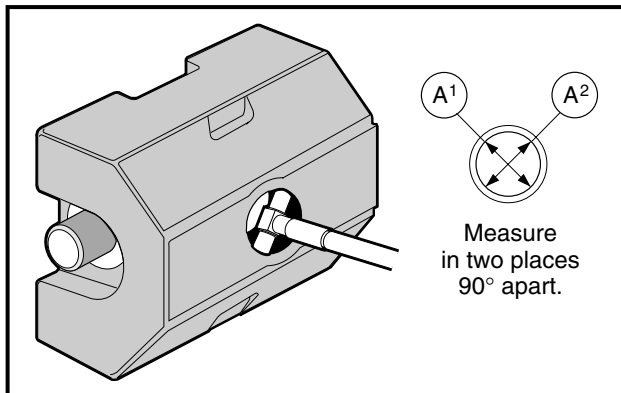

Figure 2-76 Measure I.D. of Counterbalance Weight Bore
2. Use a telescoping gauge and micrometer to measure the inside diameter of the bearing bore (**Figure 2-76, Page 2-34**).